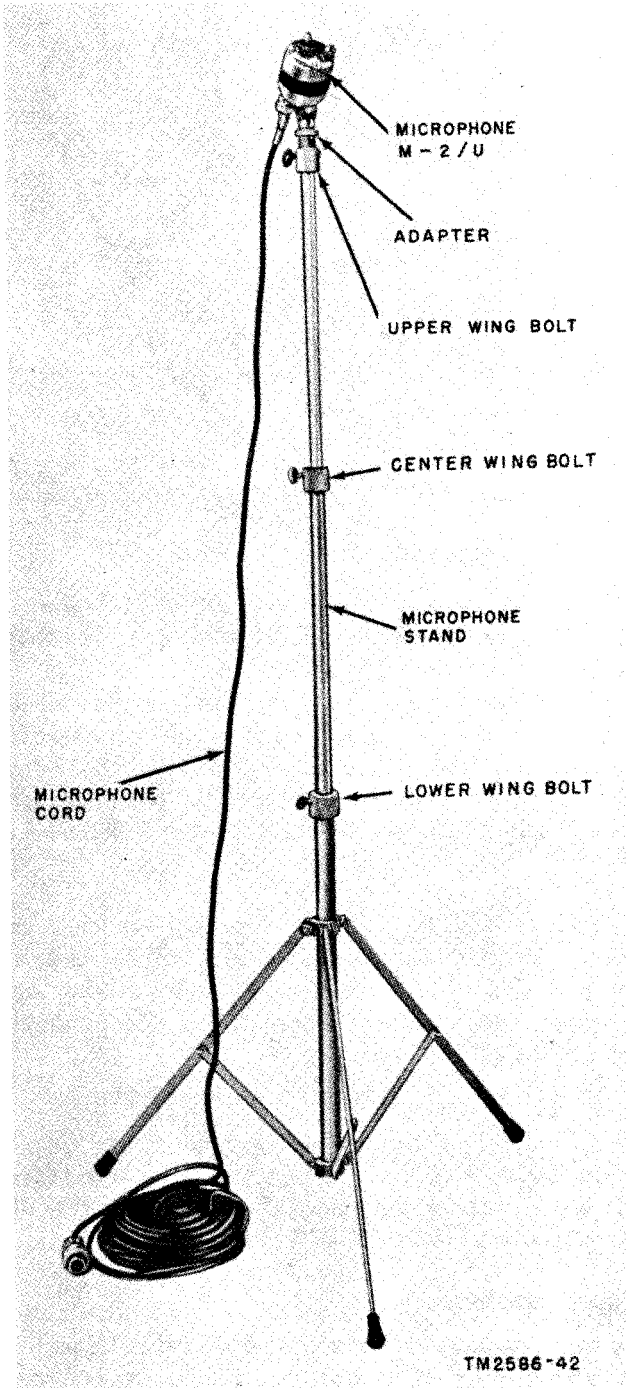
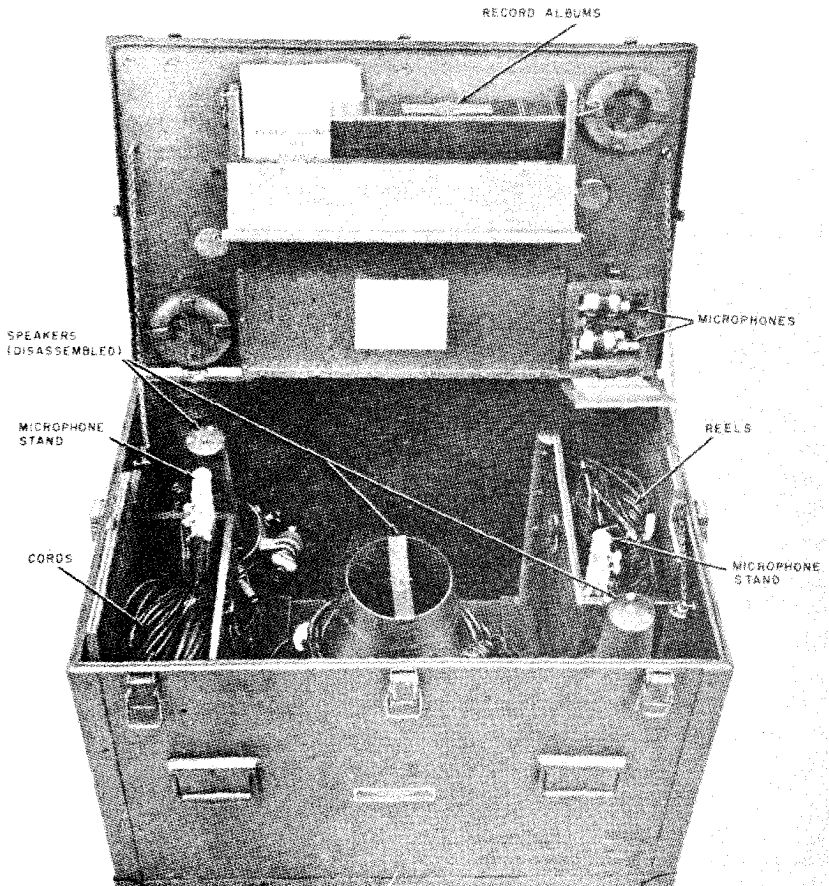

Figure 10. Microphone M-2/U mounted on stand
Figure 11. Speaker case, Case CY-37A/TIQ-2 and contents.
c. *Loudspeaker LS-103(*)/TIQ-2.* The speakers (fig. 6) are enclosed in the speaker case (fig. 11). Each speaker consists of a speaker
d. *Cords.* The 11 rubber-covered cords are stored in the speaker case (fig. 11). There are five power cords, two microphone cords, and two microphone extension cords, one turntable pickup cord, and one headset extension cord. Each cord has a bend which is stamped with a number as shown in figures 7, 8, and 9. Power extension cord (W203) is terminated at one end in a four-receptacle junction box.
f. Microphone M-2/U. Two microphones are stored in the speaker case (fig. 11). They are aluminum-finished and may be painted olive drab. Each microphone can be mounted on a stand (fig. 10) and has a receptacle for the microphone cord.
k. Case CY-37(*)/TIQ-2. The speaker case (fig. 11) contains the speakers, microphones, microphone stands, record albums, and the interconnecting cables. It may also contain the spare parts.
- (1) Turntable MX-39A/TIQ-2, procured on some orders, is equipped with a spring-clip device, which serves as a rest for the pickup arm. Turntables procured on other orders are equipped with a slotted clamp and a clamping screw that secures the pickup arm.
- (2) A MOTOR switch is provided on some turntables.
c. Speaker Case. The speaker case may be either Case CY-37/TIQ-2 or Case CY-37A./TIQ-2. The microphone stands are carried in a compartment on the underside of the lid of Case CY-37/TIQ-2 and in compartments in Case CY37A/TIQ-2 (fig. 11).
- (4) Unlatch the pick-up arm. Check to see that the arm moves freely from side to side without binding. Replace the pickup arm.
- (5) Replace the cover and fasten the four catch-fasteners.
c. To check the components in the speaker case (fig. 11), proceed as follows :
- (1) Unlatch the five catch-fasteners that hold the cover. Fold back the cover on its hinges. Remove all cushioning material.
- (2) Check to see that there are two microphone stands.
- (3) Check to see that all cords are in their compartments.
- (4) Check to see that there are two microphones.
- (5) Check to see that there are two speaker horns and two mounting units.
- (6) Check to see that there are two technical manuals.
- (7) If a spare parts case is not provided, check to see that the spare parts are located in the speaker case.
- (8) Replace the cover and fasten the five catch-fasteners.